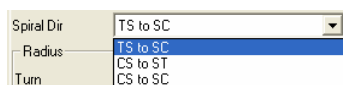

Figure 9-40. Select Spiral Direction
2. In the *General* tab of the **Add Horiz. Element: Spiral** dialog box, select the direction of the spiral (Figure 9-40 on page 9-24).